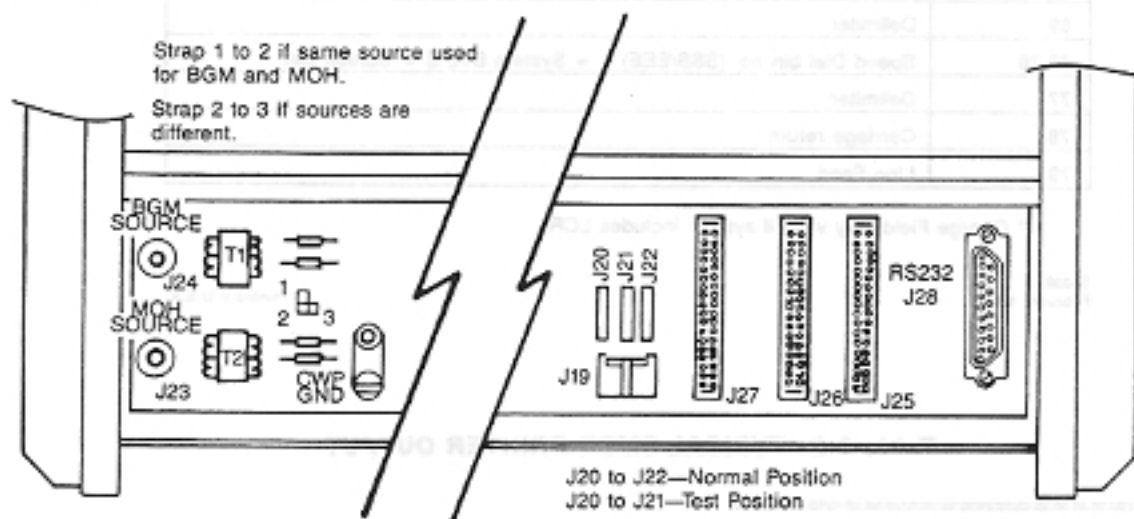

Figure 6-5 KSU CONNECTIONS FOR OPTIONAL EQUIPMENT, TCX-128
5.02 To install Background Music or Music on Hold (Figure 6-5):